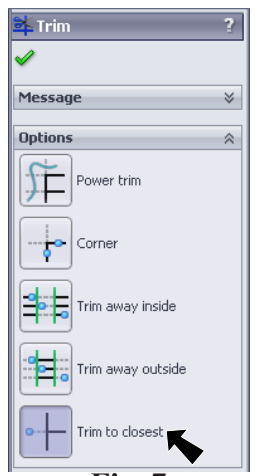

Fig. 7
**Trim to closest** , **Fig. 7**